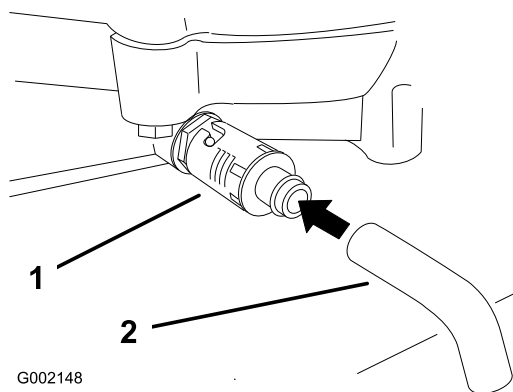

Figure 34
5. Place a pan below the drain. Rotate oil drain valve to allow oil to drain (Figure 34).